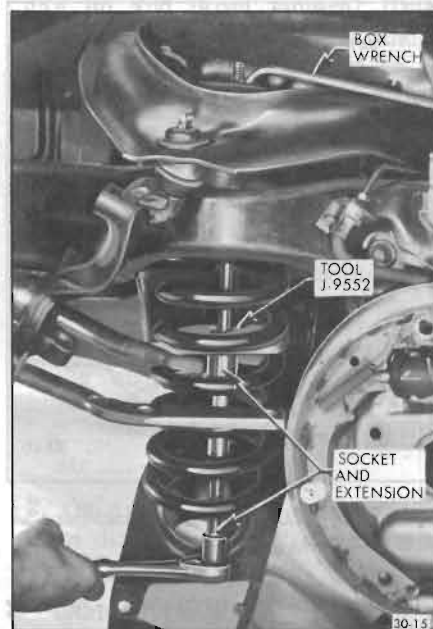

Figure 30-40—Compressing Front Spring with Tool J-9552
4. Place a box wrench on the upper nut of the tool to keep it from turning. Now tighten the bolt with a 7/8" socket and extension. See Figure 30-40.